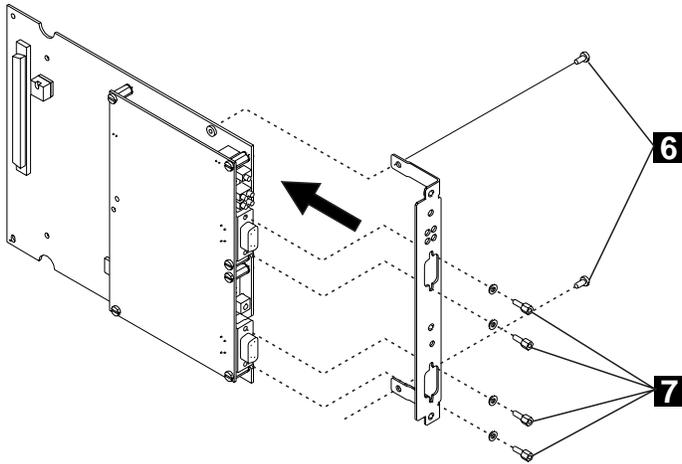

Figure 14. Attaching the Faceplate Bracket
- **7** Attach the faceplate bracket to the motherboard using the two screws (**6** in Figure 14 on page 48) from the dummy bracket.